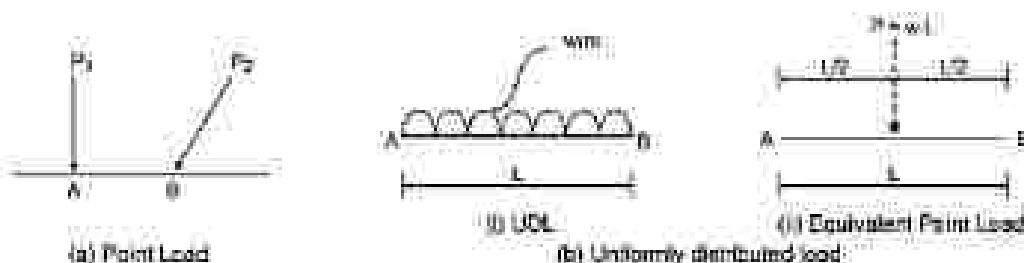

Fig. 2.9: Types of load
Load uniformly spread over the length of a beam is known as uniformly distributed load (UDL). In this type of loading, weight of load per unit length is known as intensity of load and is same along the length which is denoted by w with units N/cm or kN/cm or N/m or kN/m . A truck loaded with sand of equal height & compound wall transferring load on the ground & person sleeping on bed are examples of UDL. For analysis, total load is taken as $(w \times l)$ acting as point load P at mid-point of length of UDL as equivalent value of UDL to find support reaction of beam as shown in fig. 2.9(b).
(C) Uniformly varying load (UVL) [fig. 2.9 (c)]